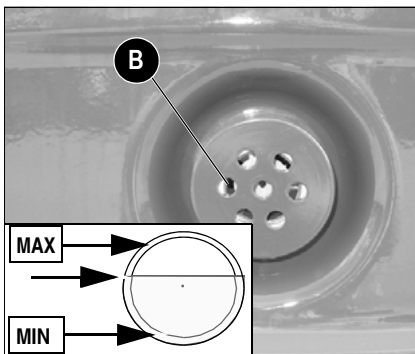

Fig. 157: Oil level indicator on the hydraulic oil tank
- The oil level must be about 1 cm over the centre, between positions **MIN** and **MAX**, as shown by the arrows in fig. 157.